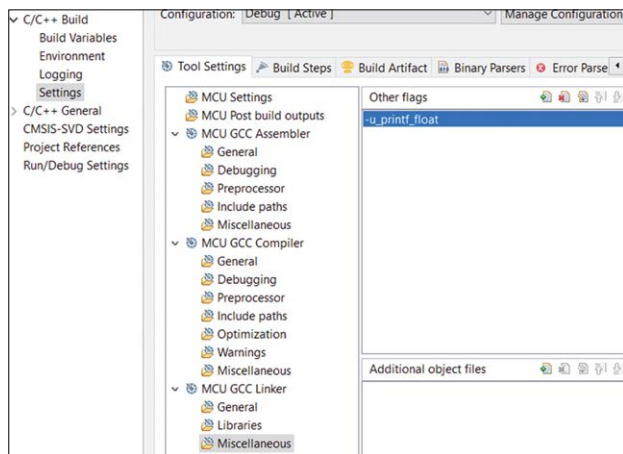

Figure 14.13: Configuring the linker for floating-point.
- Enter string **-u\_printf\_float** as shown in Figure 14.13.